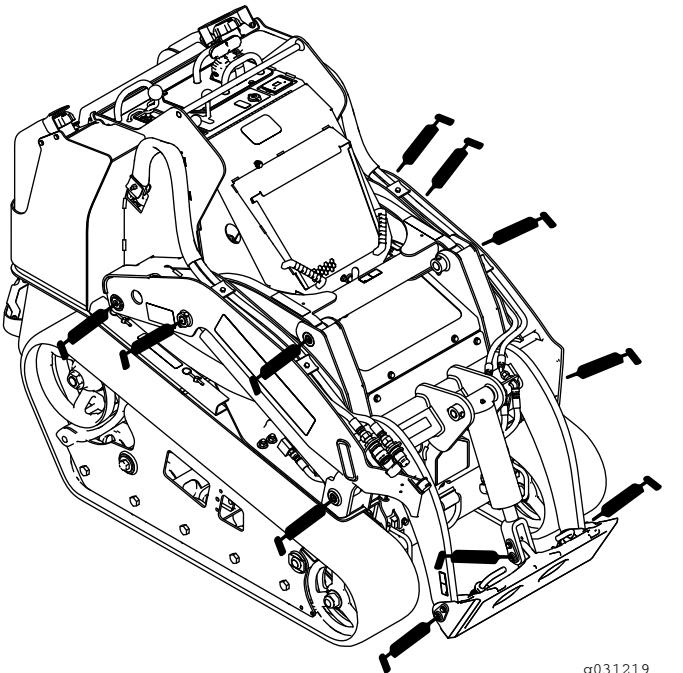
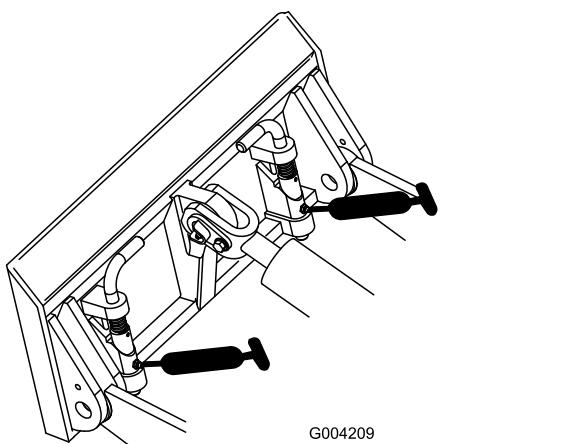
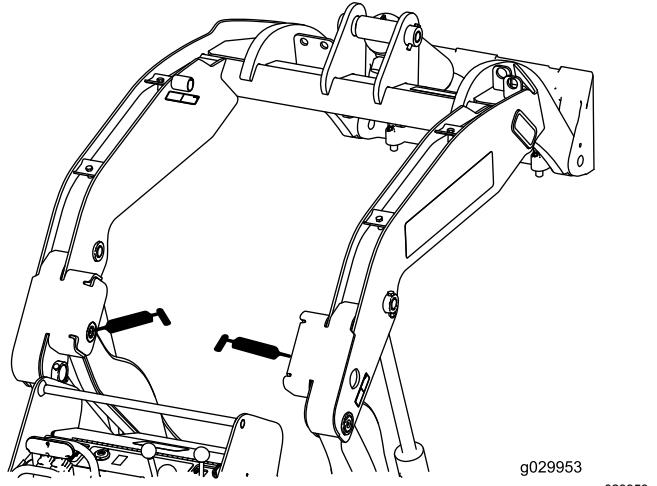

Figure 44
Figure 45
Figure 46
3. Connect a grease gun to each fitting (Figure 44, Figure 45, and Figure 46).
Note: Raise the loader arms before greasing the fittings in Figure 46.